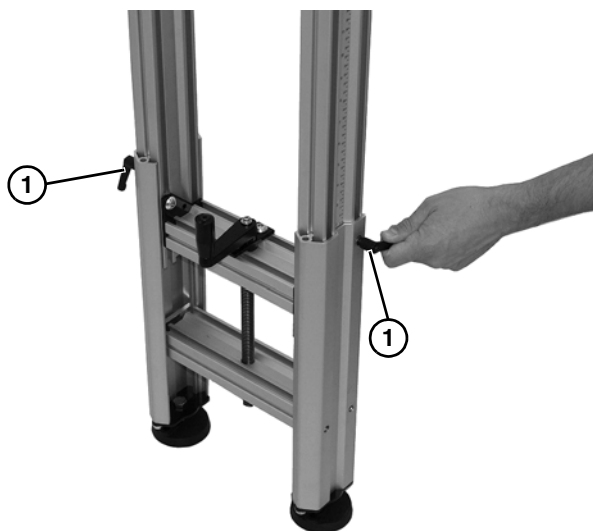

Figure 8
1. Loosen two locking knobs (Figure 8, item 1).
2. Raise or lower stand leg by turning adjustment knob (Figure 8, item 1) to the required height.
Failure to secure locking knobs (Figure 8, item 1) may cause conveyor sections to drop down causing severe injury.
TIGHTEN KNOBS (Figure 8, item 1) AFTER ADJUSTMENT.
3. Tighten two locking knobs (Figure 8, item 1) to secure position.